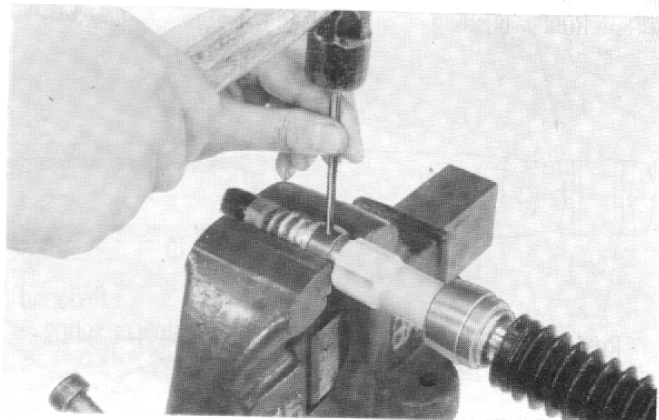

Fig. 67
- (6) Pull out the pin which fixes the fork slide pipe, under holder and piston with a pin remover (Tool No. 07053-09801) as shown in Fig. 67.